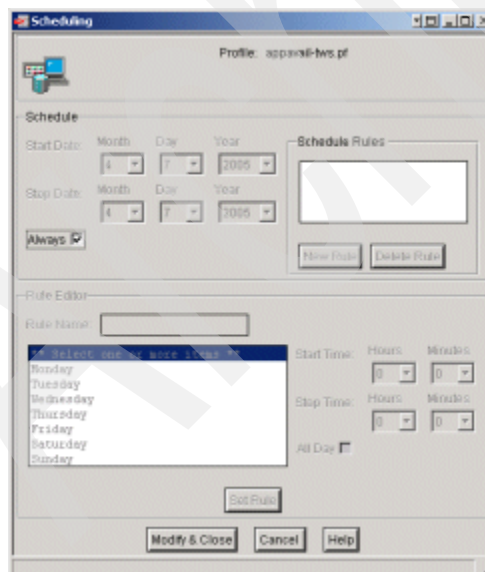

Figure 9-87 Scheduling window
9. You do not want the monitoring to be in effect during Jnextday, so you need to configure the resource model to stop running during Jnextday. Select **Schedule**. The Scheduling window opens as shown in Figure 9-87.